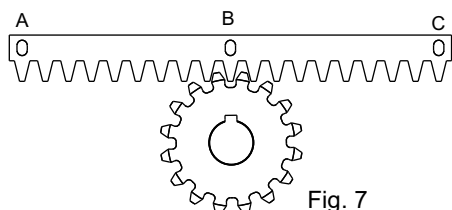
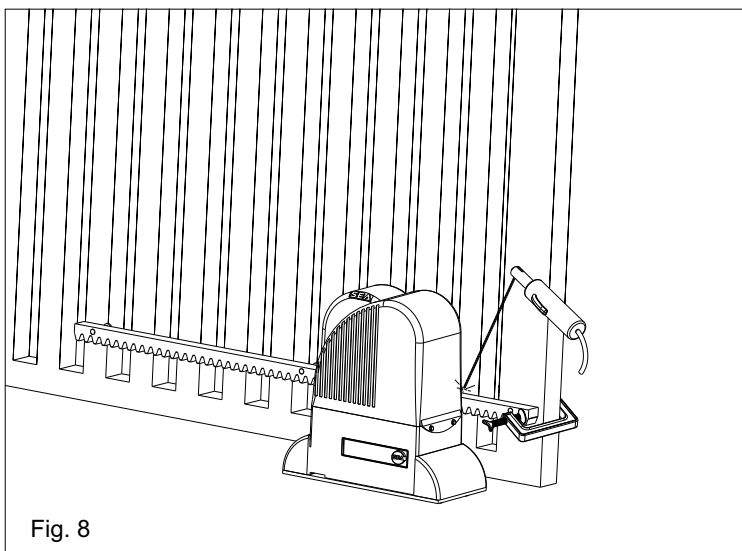

Fig. 7
Fig. 8
5.3. Lean the gear rack element on the toothed pinion of the motor so that it results parallel to the ground slideway of the gate, place it as shown in Fig. 7 and electrically weld the central pawl B to the gate structure (Fig. 8).